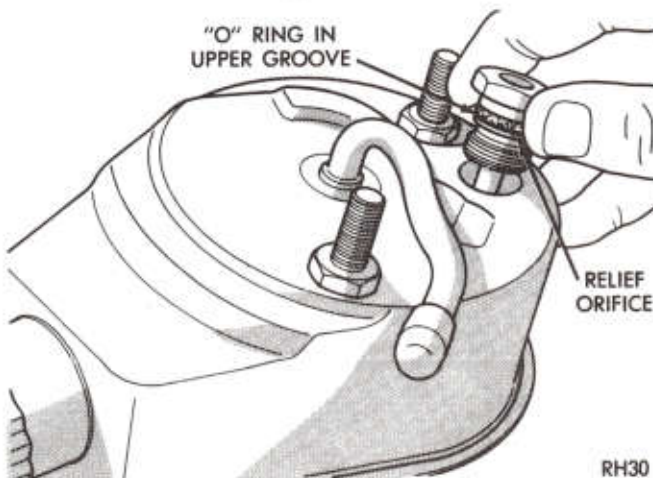

Fig. 18—Install Pressure Hose Fitting
(13) Using a punch, tap retainer ring ends around in the groove until gap is in line with flow control valve bore as shown.
(14) Replace reservoir O-ring, two mounting stud O-rings and flow control valve O-ring on pump body, lubricate with power steering fluid and carefully position reservoir on pump body. Visually align the mounting stud holes until studs can be started in threads.
(15) Using a plastic hammer, tap reservoir down on pump and insert flow control valve spring and valve (slotted end up).
(16) Replace O-ring on pressure hose fitting and lubricated with power steering fluid (Fig. 18).